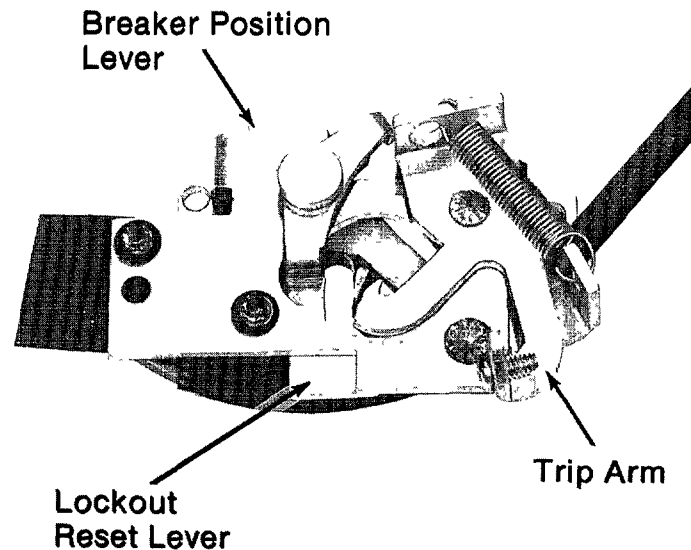

Fig. 1. Bell alarm device shown in lockout condition.
This device, Fig. 1, is for use in 2500-4000A frame POWER BREAK® MagneTrip™ circuit breakers. It is designed to provide an electrical signal or interlock switching function to indicate remotely that the breaker has opened under overcurrent conditions. The switch is a single-pole, double-throw AB type, rated 6 amperes at 600 Vac, ¼ ampere at 240 Vdc, and ½ ampere at 125 Vdc.
4. Check the replacement unit to verify that it is in the lockout condition shown in Fig. 1. If it is not, proceed as follows: